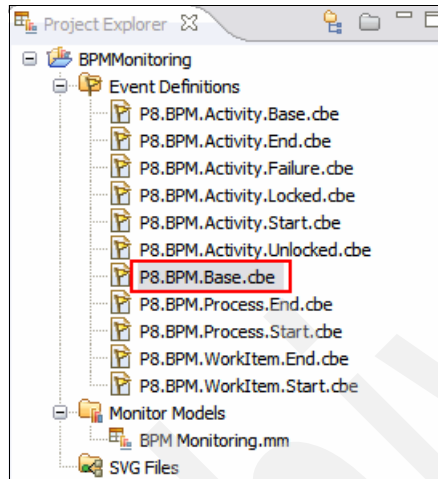

Figure 7-77 Project Explorer
1. In Project Explorer, expand **BPMMonitoring** → **Event Definitions** → **P8.BPM.Base.cbe** (Figure 7-77).